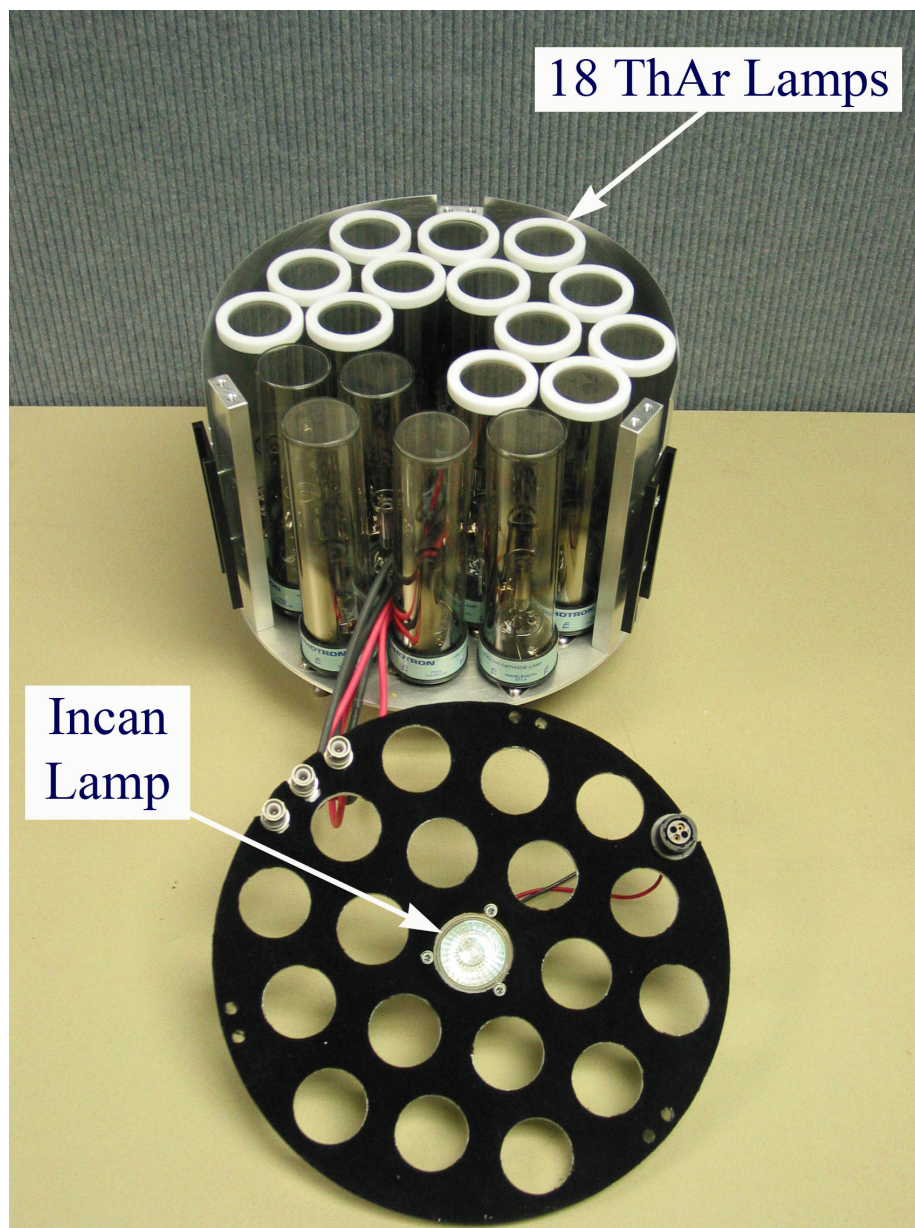

Figure 19: The partially assembled Hectochelle cal lamps system.
1. *Thorium-argon (ThAR) hollow cathode lamps* – These are nine (18) lamps that provide the primary wavelength calibration standard (see Figure 19). To make wavelength calibration exposure tractably short, they are mounted on a spider immediately in front of the secondary mirror and directly illuminate the focal plane. These bulbs are mounted on-axis and illuminate the focal plane relatively uniformly, irrespective of fiber position. Since these lamps point directly at the focal plane, they can be illuminated without closing the slit & it is recommended that a ThAr lamp be taken after every science frame or before and after each group of science frames. The guide cameras must have their gains reduced when the ThAr system is turned on, however this procedure, implemented by the HectoRobot operator, is routine. It is also essential to offpoint the telescope somewhat from the target stars during calibration, since it is undesirable to have stellar spectra superposed on the calibration data.